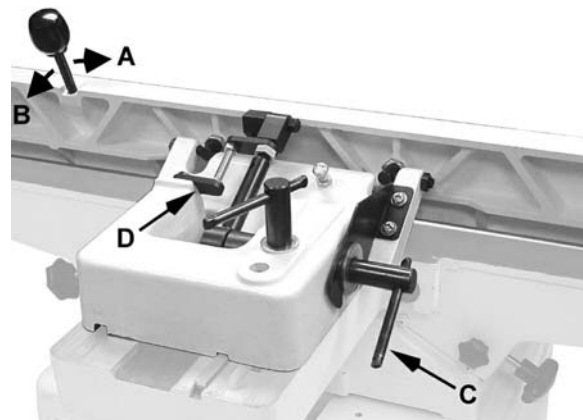

Figure 12
1. Loosen locking handle (C, Figure 12).
2. Move the lever forward (A, Figure 12) to the desired angle down to 45 degrees. Or you can place your reference piece on the table and against the fence, and adjust the fence until the angle of the fence matches the bevel of your gauge piece.
3. Tighten locking handle (C, Figure 12).
2. Loosen locking handle (C, Fig. 12).
3. Flip the 90° stop block (D, Fig. 12) out of the way.
4. Move the lever (B, Fig. 12) back to the desired angle up to 135 degrees. Or you can place
5. Tighten locking handle (C, Fig 12).
**Important:** When the tilted operation is finished and the fence is returned to 90°, do not forget to flip the 90° stop block (D, Fig. 12) back to its original position.